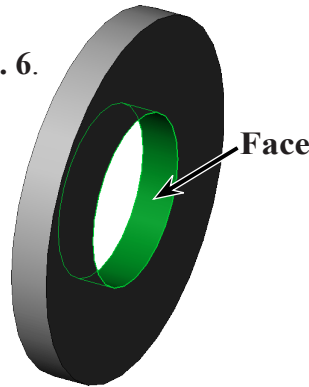

Fig. 6
Step 1. Click the **inside cylindrical face** to select it, **Fig. 6**.